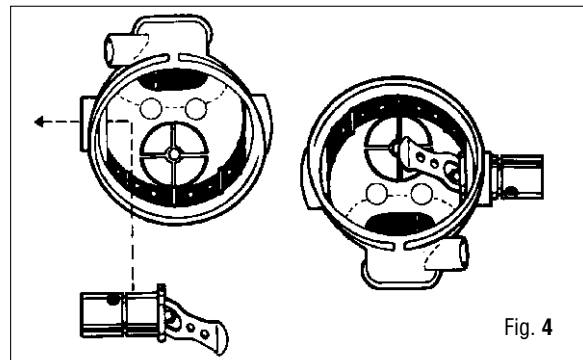

Fig. 4
14. From the inside of the case 32, insert the poppet housing 91 through the hole in the side of the case that has the by-pass tube attachment. Align the flat edge of the poppet housing with the flat molding of the case and pull the poppet housing into place. (See Fig. 4).